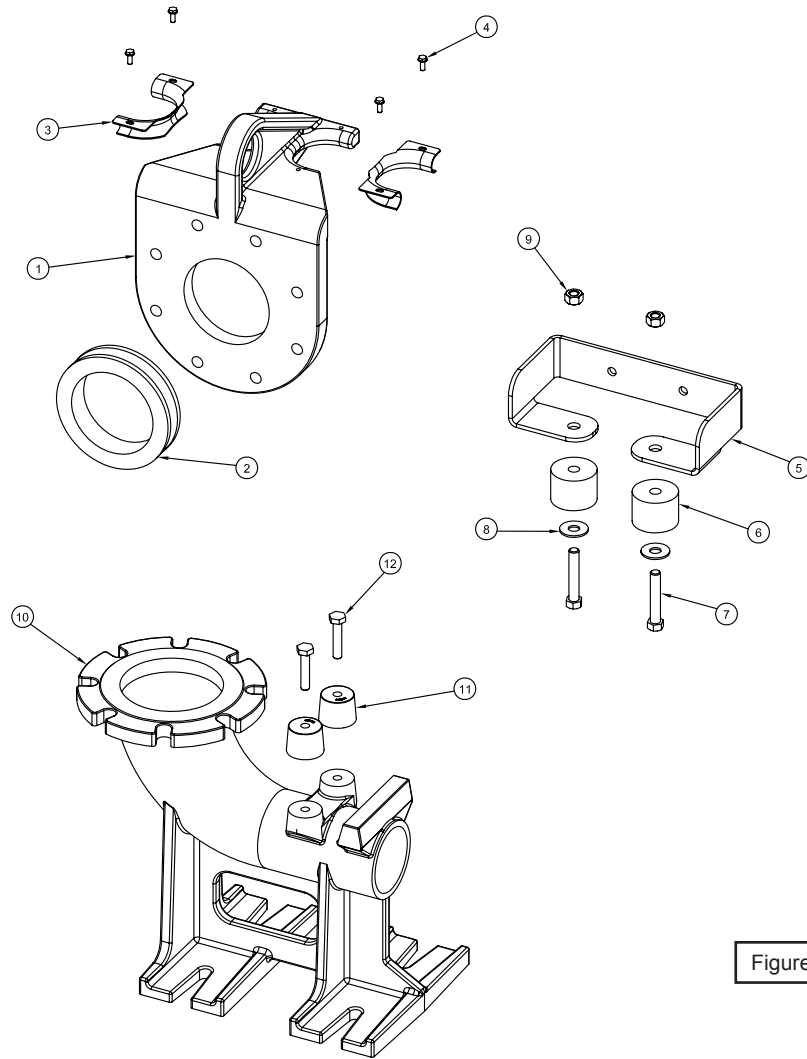

Figure 7
(See Figure 7 ) These instructions apply to all Deming pumps with a 125 lb. flange horizontal discharge on volute. Position one gasket (4) between the moveable assembly (1) comprised of Moveable (1A) and O-Ring (1B), and the pump body discharge flange. Attach the discharge flange to the slide assembly with 8 hex. head bolts (5), 8 split lock washers (6), and 8 hex. nuts (7). Torque each bolt to 75/85 ft. lbs.